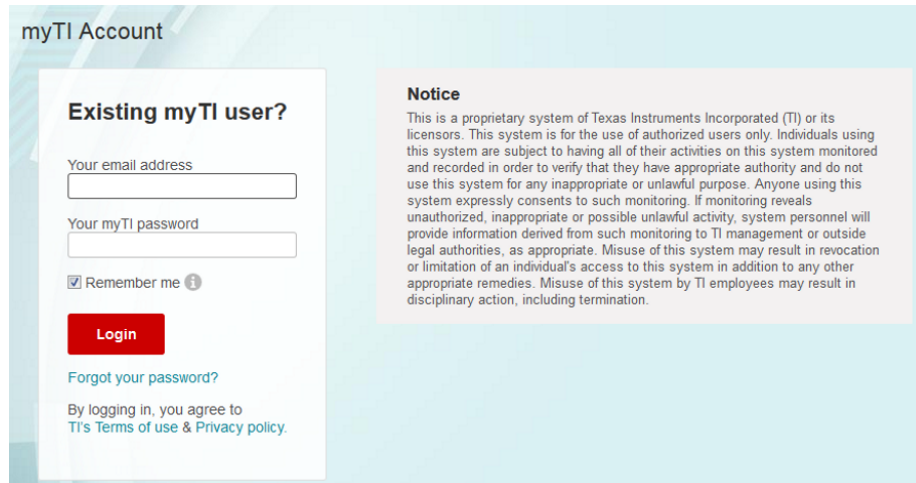

Figure 13. My TI Account Login Screen
2. Log in to your myTI account, as shown in Figure 13.